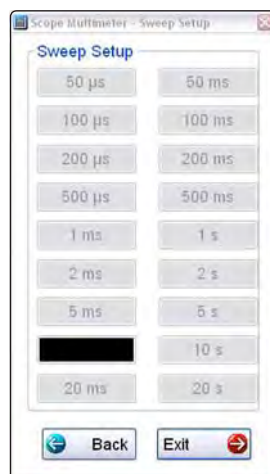

Figure 9-12 Sample Sweep Setup dialog box
2. Select **Sweep** to open the sweep dialog box (Figure 9-12)